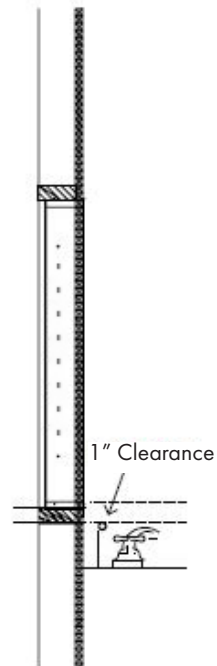

Fig. 2
2. Allow for 1" of clearance on height elevation above any obstructions as illustrated in Figure 2. Note the door will exceed the wall opening by 1" on top and bottom of most cabinets. Refer to technical data for exact sizes.